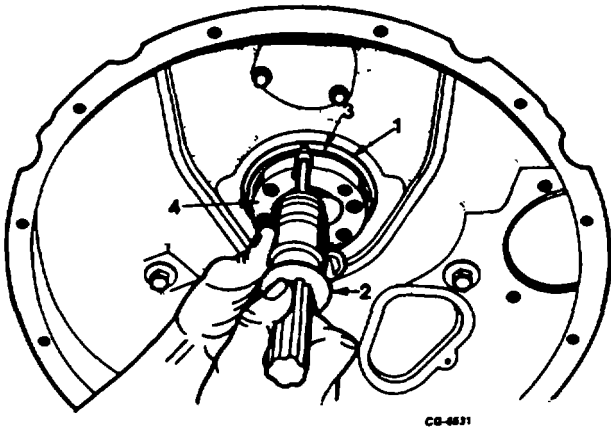
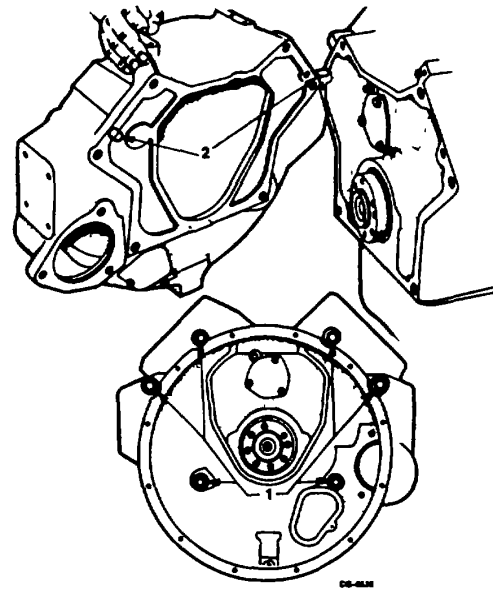

Figure 101. Removing Rear Main Oil Seal Using SE-2091 Seal Remover
Figure 102. Flywheel Housing Mounting Details
10. To remove, pierce seal retainer with point of screw on end of remover. Thread screw into seal. Apply slide hammer to pull seal from bearing cap. Figure 101.
11. Remove six flywheel housing mounting bolts and flat washers and remove flywheel housing (Figure 102).
NOTE: When required, crankshaft rear main oil seal can be removed with engine in chassis by using SE-2091 oil sealer remover (Figure 101) or, during engine overhaul when the main bearing cap is removed (Figure 102).